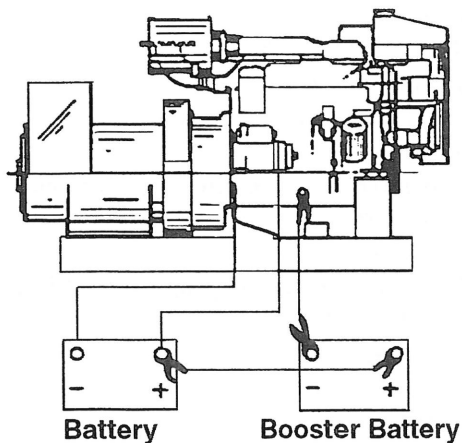

Figure 19. Booster Battery Connections
3. First, connect positive (+) terminal of booster battery to positive (+) terminal of main battery. Then, connect negative (-) terminal of booster battery to ground on the engine block. (See Figure 19.)